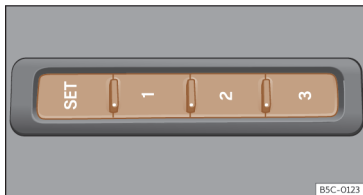

Fig. 89 On the outer side of the driver's seat: memory buttons.
- Press **SET** for longer than 1 second >>> **Fig. 89**.